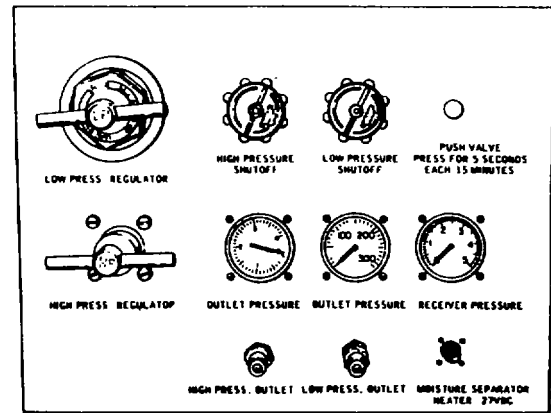

Figure 2-2. Instrument Panel
2.4.1 Open the front, left-hand access door (see Figure 1-3) and remove the air hose and chuck assembly from the hose reel. For low-pressure charging (up to 200 psig), connect the air hose half-coupling to the low pressure outlet fitting on the instrument panel (see Figure 2-2). For charging pressures above 200 psig, connect the half-coupling to the high-pressure outlet fitting. Close the pressure servicing valve at the opposite end of the air hose before connecting the chuck assembly to the inlet valve of the device to be charged. Be sure all connections are tight and there are no kinks or sharp bends in the air hose.
2.5.9 When operating the compressor package assembly at ambient temperatures below 40° Fahrenheit, connect a source of 27-volt direct current to the electrical connector on the instrument panel (see Figure 2-2).
b. Close the high-pressure and low-pressure shutoff valves located on the instrument panel (see Figure 2-2).
h. As the compressor package assembly operates, check the receiver pressure gage (see Figure 2-2) at regular intervals to make certain air pressure in the receiver is increasing at a steady rate. Allow the unit to operate until the receiver pressure is adequate to supply the charging requirements.
i. Adjust the applicable high or low pressure regulator (see Figure 2-2) for the required delivery pressure as indicated by the corresponding outlet pressure gage.
j. With the air hose and chuck assembly connected to the appropriate outlet fitting, open the corresponding high or low pressure shutoff valve (see Figure 2-2).
l. During the charging procedure, press the push valve (see Figure 2-2) for approximately five seconds once every fifteen minutes of compressor operation. This will allow the high-pressure air in the filter and separator assembly to escape to atmosphere (blow down), carrying with it the oil and water condensate.
n. Close the shutoff valve on the instrument panel (see Figure 2-2). Disconnect the air hose and chuck assembly from the outlet fitting and replace the hose on the hose reel.